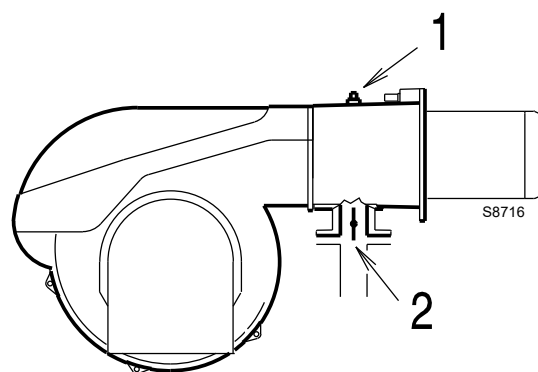

Fig. 23
Gas pressure measured at the test point 1)(Fig. 23), with:
Pressure loss at gas butterfly valve 2)(Fig. 23) with maximum opening: 90°.
Gas pressure at test point 1)(Fig. 23) = 11.6 mbar
To calculate the required gas pressure at test point 1)(Fig. 23), set the maximum modulating output required from the burner operation:
- read, on the right (column 1), the pressure at the test point 1) (Fig. 23).
pressure required at test point 1)(Fig. 23).